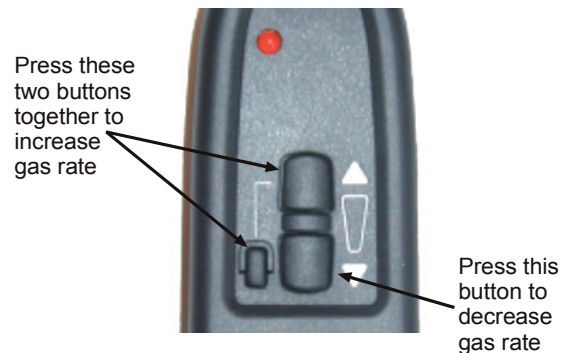

Figure 8 - Handset Operation
6. Using the HANDSET (as shown in **Figure 8**) press and hold both the top and the small button together until the main burner goes to full rate and clicking can be heard from the valve. During this process the main burner will ignite from the pilot.